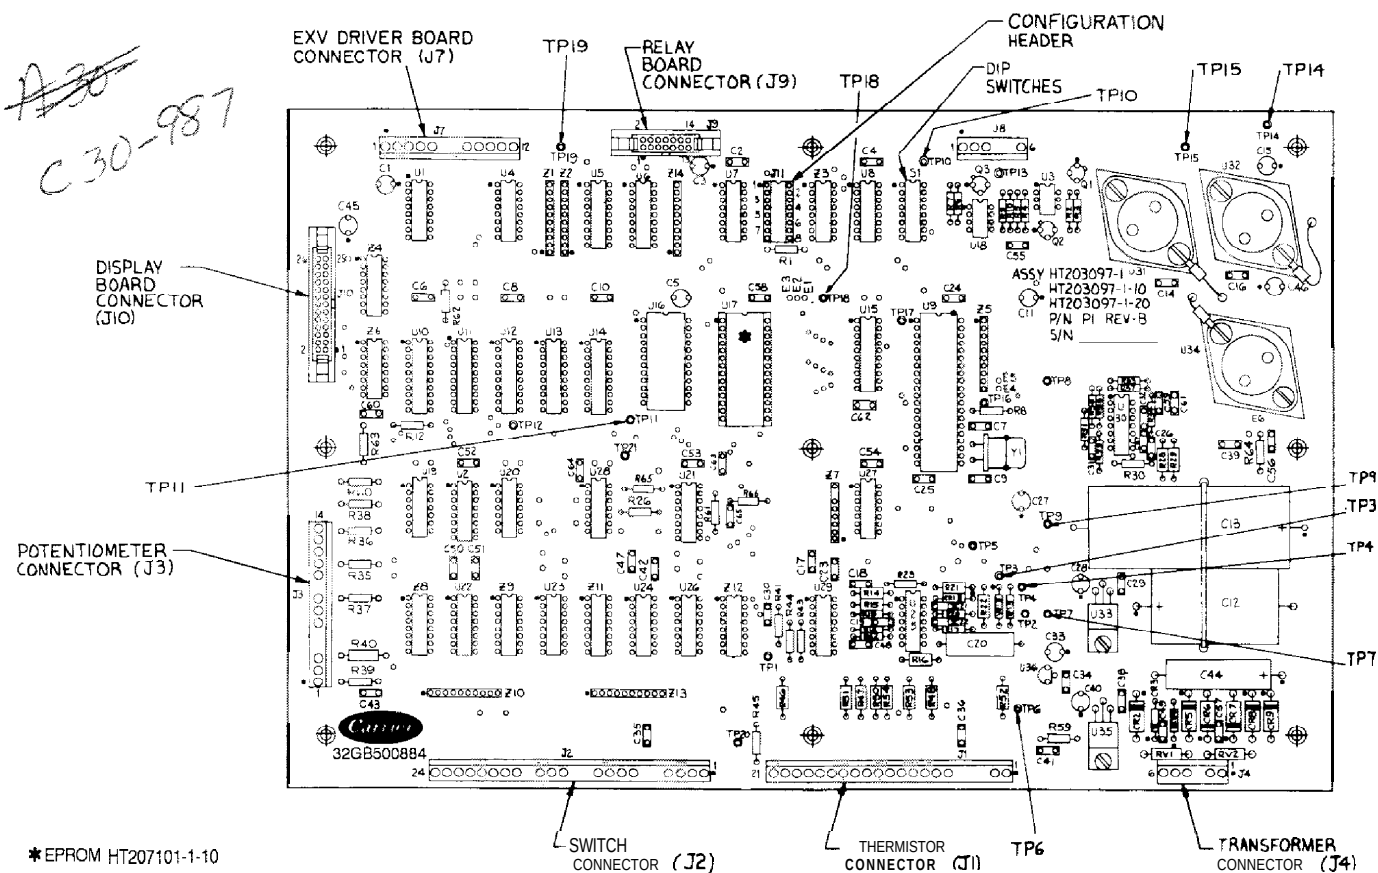

Fig. 24 — Processor Board Test Pins and Connectors
Connect the negative test lead to test pin TP18, (see Fig. 24). Turn the control switch on and press the display button so that the control enters the Quick Test mode. Check the voltage at each of the test pins listed. If the voltage is not as specified, replace the processor board.
STEP 8 — POTENTIOMETER CONNECTION CHECK-OUT Turn power OFF and disconnect plugs from J3. Connect negative test lead to terminal TP18 on the processor board. Turn power on and enter Quick Test mode. You should get the following voltages at each pin on connector J3 (see Fig. 24).
STEP 9 — THERMISTOR INPUT CONNECTOR CHECK-OUT Turn power OFF and remove thermistor connections from J1 (identify for replacing). Connect negative test lead to TP18. Turn power on and enter Quick Test. Check for the following voltages at connector J1 (see Fig. 24).